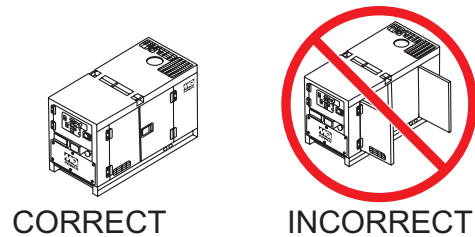

Figure 43. Engine Enclosure Doors
- Close all engine enclosure doors (Figure 43).